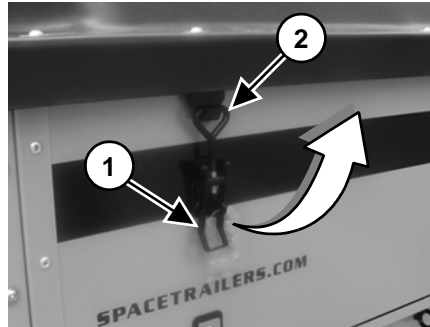

Figure 23
2. Lift the handle (Item 1) until the latch (Item 2) is free from the latch hook. **(Figure 23)** (both sides)